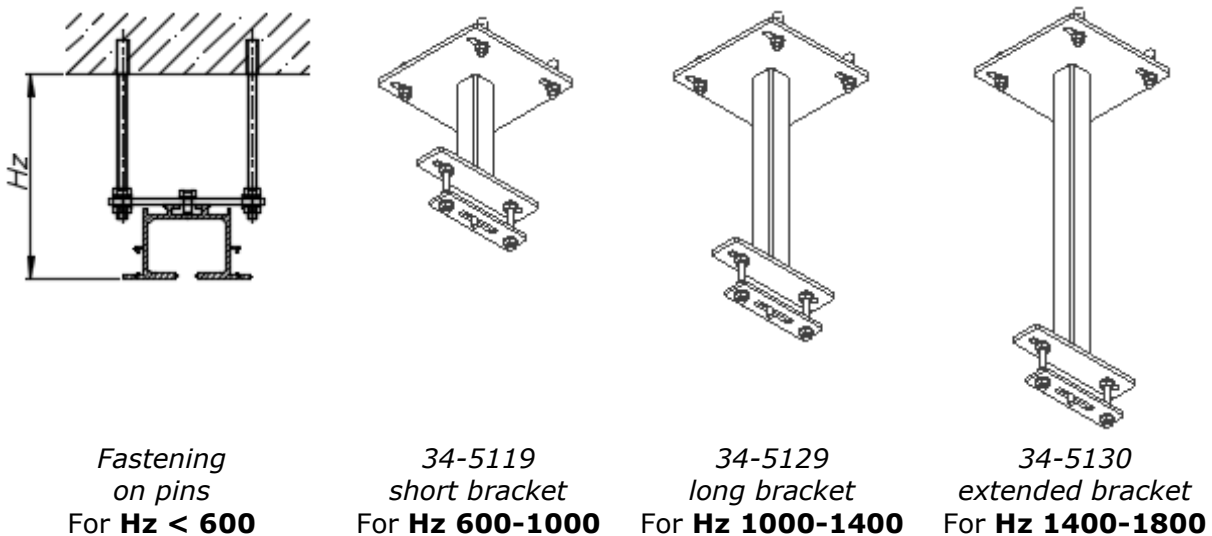

Fig.26. The use of appropriate brackets to stiffen the track fastening Hz-height from the bottom plane of the track to the ceiling (Fig.4)
- **short** (34-5119 in Fig.26) **every 3 standard fasteners** in the wall axis (**every 2 on the parking rack**)
5. Fix a steel anchor in each drilled hole (8)